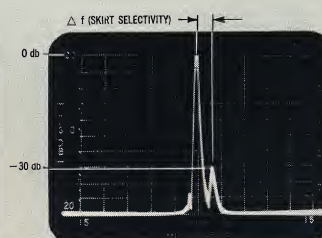

FIGURE 5
**Skirt Selectivity:** Related to "Resolution", but specifically, the ability of a Spectrum Analyzer to display and measure closely spaced signals of *unequal amplitude*. Expressed in cps, values of "Skirt Selectivity" are often given for a 20, 40 and 60 db signal amplitude difference, such as 50 cps separation for a 60 db ratio. (See Figure 5)